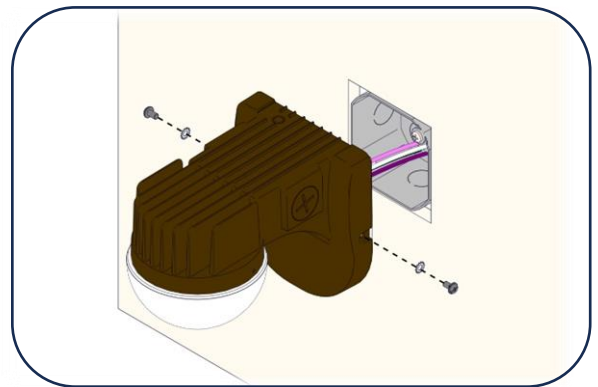

Figure 2
2. Remove the Quick Mount Bracket screws and tooth-lock washers. [Figure 2]